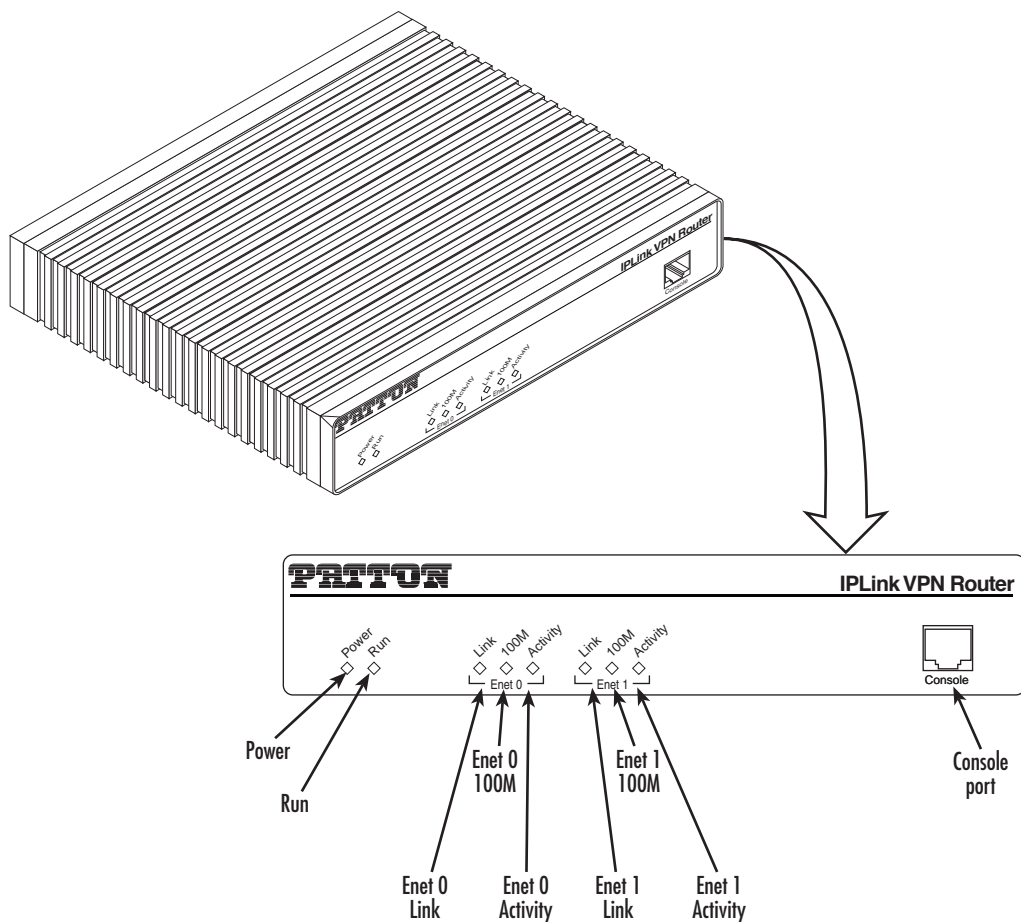

Figure 8. VPN Router front panel LEDs and Console port locations (OnSite 2835 shown)
5. Verify that the green *Power* LED is lit (see figure 8).